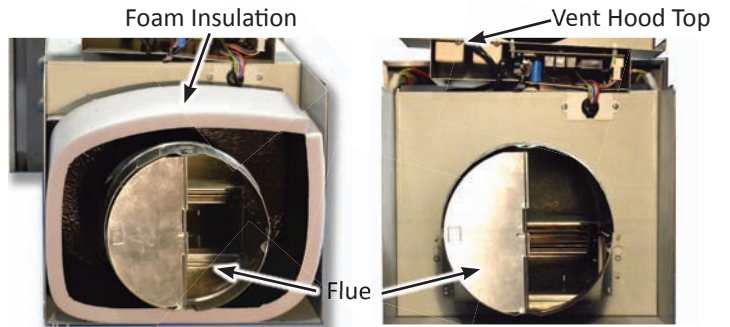

Figure 4
4. Remove the foam insulation from around the top of the range hood flue. See figure 4.